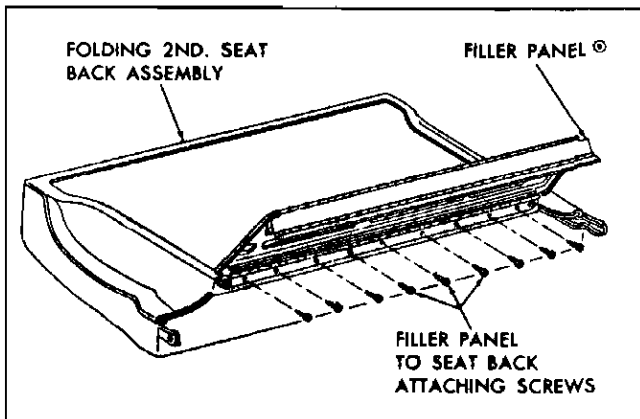

Fig. 5-14 Rear Door Filler Panel
3. Fold filler panel forward sufficiently to remove screws which secure panel to folding 2nd seat back assembly and remove filler panel from body (Fig. 5-14).
NOTE: When necessary to remove filler panel from seat back assembly, as a bench operation, fold filler panel as shown in Fig. 5-14 and remove screws which secure filler panel to seat back panel assembly.